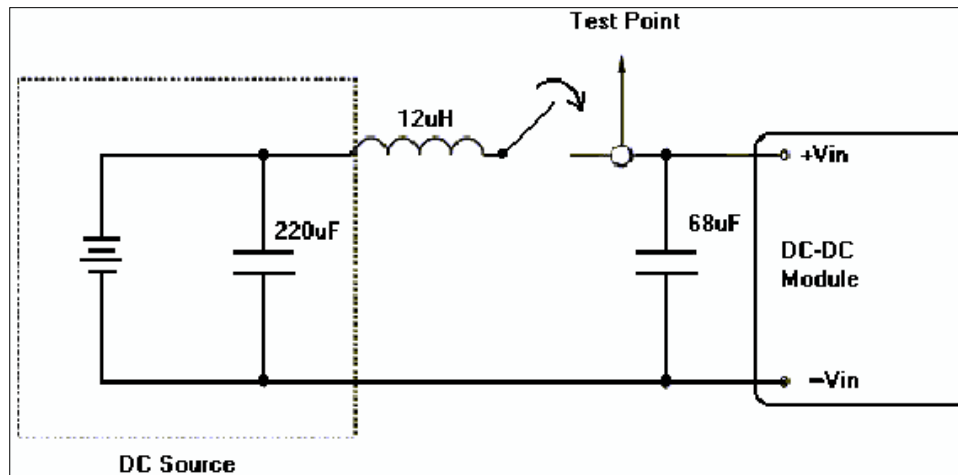

Figure 1. Measure input reflected-ripple current with a simulated source inductance of 12 µH.
2. External input capacitance required. See Figure 1 for the Input Reflected-Ripple Current Test Setup.